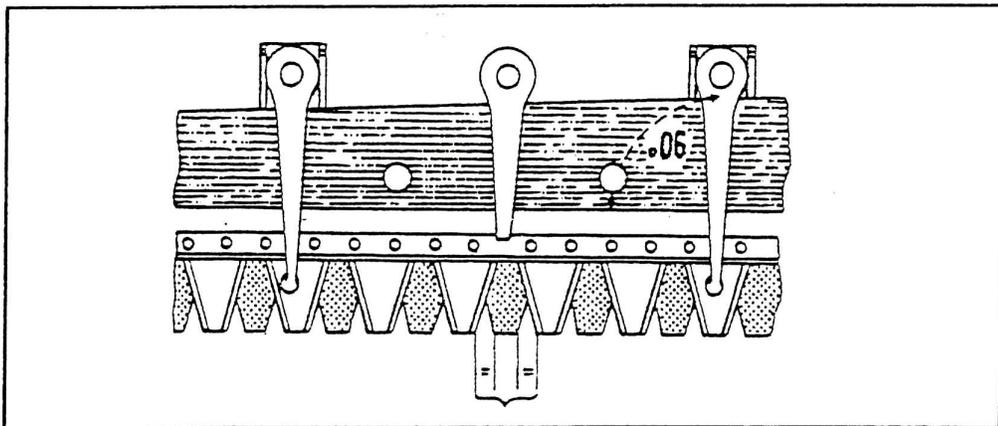

Figure 8
- The cutting blades will be brought to the middle position of Figure 8, so that the upper guide bar occupies a 90 ° angle to the upper edge of the bar.
- Unscrew the crown nut (item 4) on the top pin until the camshaft can be started manually or with the help of tools.
- After completing the clearance, the crown nut (item 4) is firmly tightened and secured by a gap from self-locking.